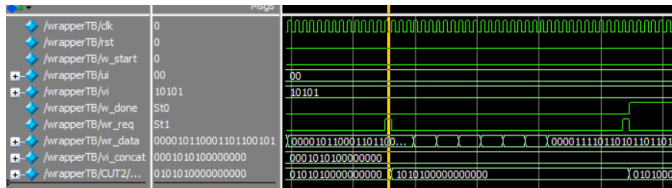

Fig. 23 Third and fourth simulation results
- $e^{0.65625} = 00001.1110110101101101$ (figs 23,24)